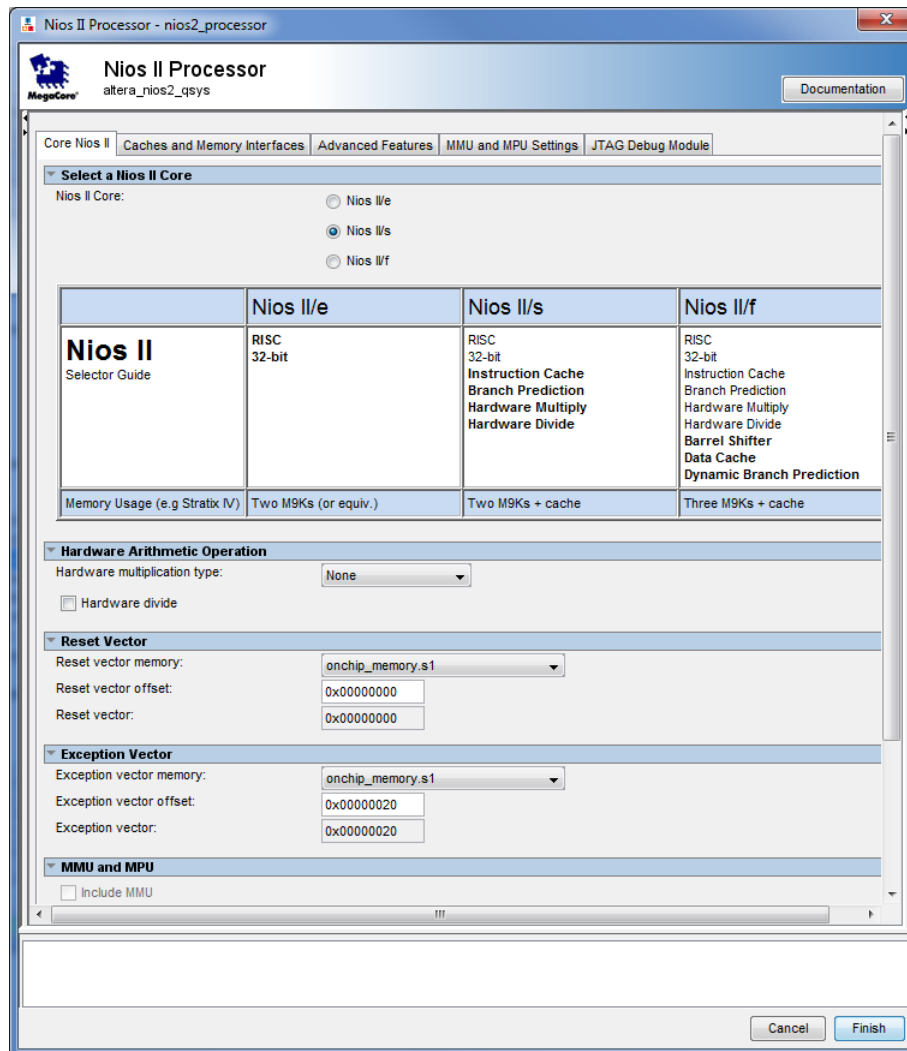

Figure 18. Define the reset and exception vectors.
- Right-click on the *nios2_processor* component in the window displayed in Figure 17, and then select Edit to reach the window in Figure 18
- Select *onchip_memory* to be the memory device for both reset and exception vectors, as shown in Figure 18